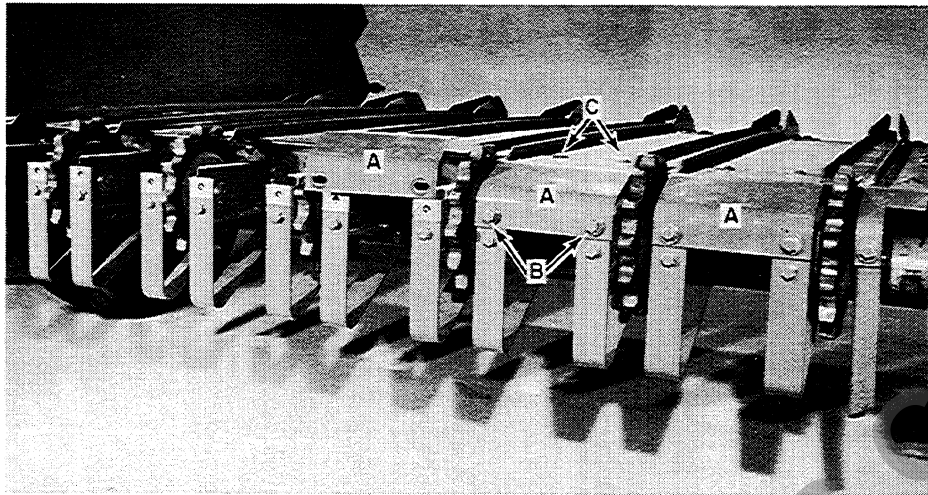

FIGURE 57
2. Remove the chain guides, A, Figure 57, from the baler by removing the cap screws at B, and the carriage bolts at C.